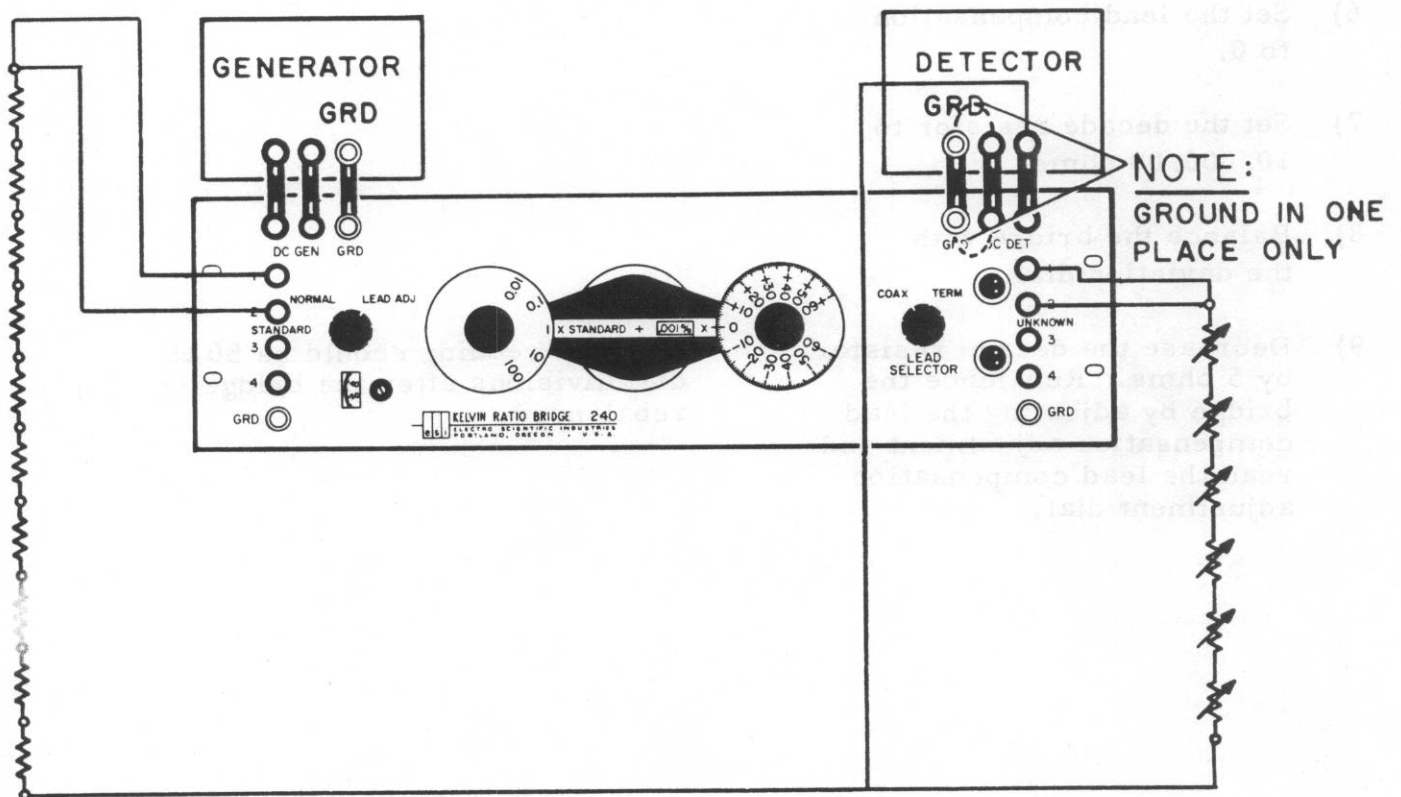

FIG. 4.2.2
- 1) Connect the 0.01 ohm per step decade resistor and the series-connected 100K per step resistance transfer standard as shown in Fig. 4.2.2.